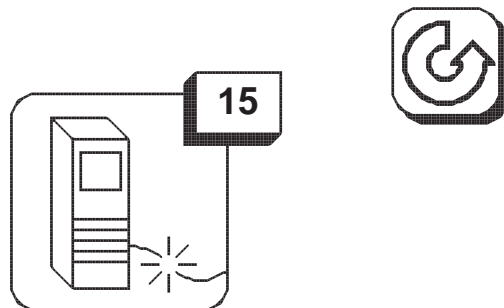

Figure 1-21 RIP icon.
11. Turn the system on. Allow the system to boot and load the application firmware. When the RIP icon appears on the control panel, the system is ready. Refer to Figure 1-21. The RIP can now be turned on.